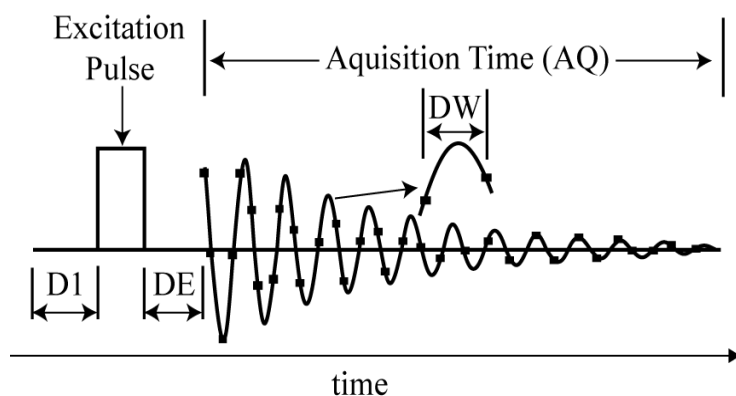

Figure 15 Pulse sequence diagram illustrating the acquisition parameters.
Each parameter has a brief description located to the left of it. Users should **NEVER** adjust the Channelf1 or Channelf2 parameters located below the black line in the figure above. These are the pulse power and pulse duration parameters and adjusting them can result in **SEVERE** probe damage and a very costly repair. Furthermore, the TD0 and PULPROG parameters should never be adjusted by the user. The receiver gain (RG) parameter is automatically set when the user carries out an acquisition. The remaining parameters and how they apply to the acquisition of an FID is shown below (figure 15) in what is known as a pulse sequence diagram: